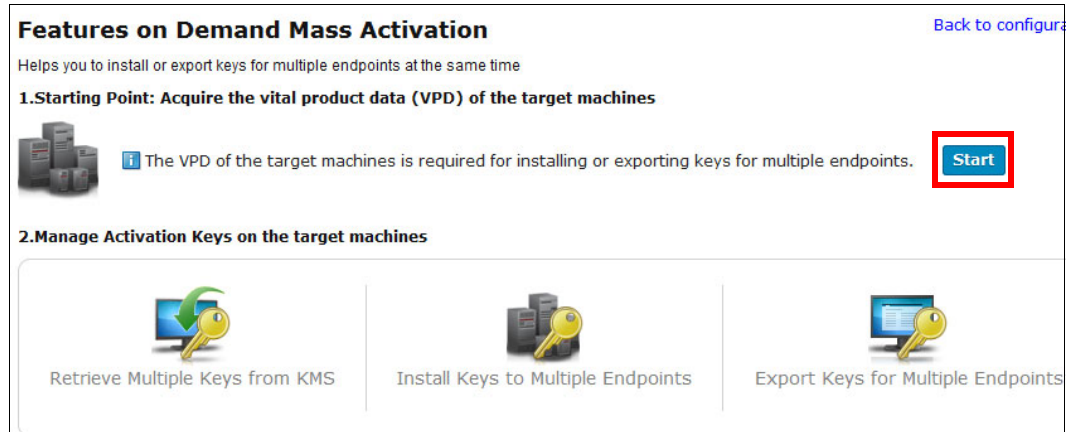

Figure 3-53 Add VPD
- From the Features on Demand Mass Activation page, click **Start** to add machine VPD, as shown in Figure 3-53.